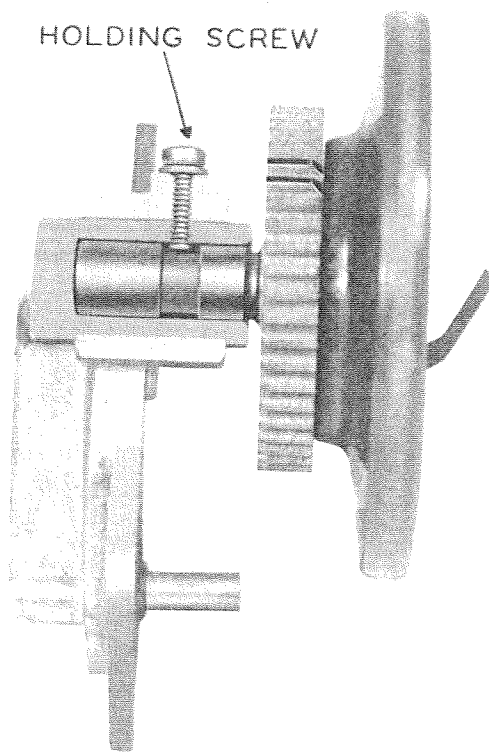

Figure 16. Screw Holding Distributor Disc
The late magnetos are equipped with a screw, Figure 16, which holds the distributor disc shaft in the bearing, to prevent it from being pulled out when removing the distributor block. Loosen this screw about $1/16"$ (2 turns) then remove distributor disc as before.
Remove the distributor disc, Figure 16.
1. Replace the distributor Disc, Figure 16.